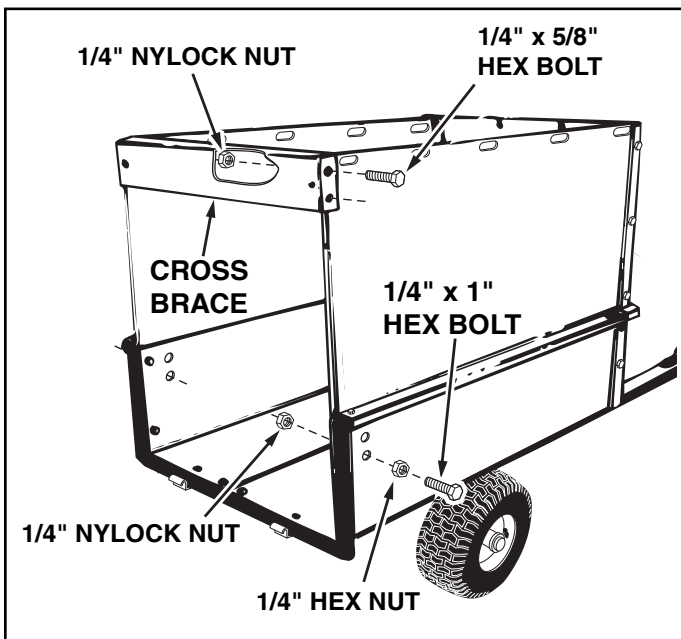

FIGURE 12
21. Screw a 1/4" hex nut approximately half an inch onto a 1/4" x 1" hex bolt. Insert the bolt into the hole shown in figure 12, in the side of the cart. Fasten the bolt to the cart using a 1/4" nylock nut. **Tighten** so that the nut is flush with the end of the bolt. Repeat on the other side. See figure 12.
22. Assemble the cross brace to the top rear holes in the side panels using four 1/4" x 5/8" hex bolts and 1/4" nylock nuts. See figure 12.